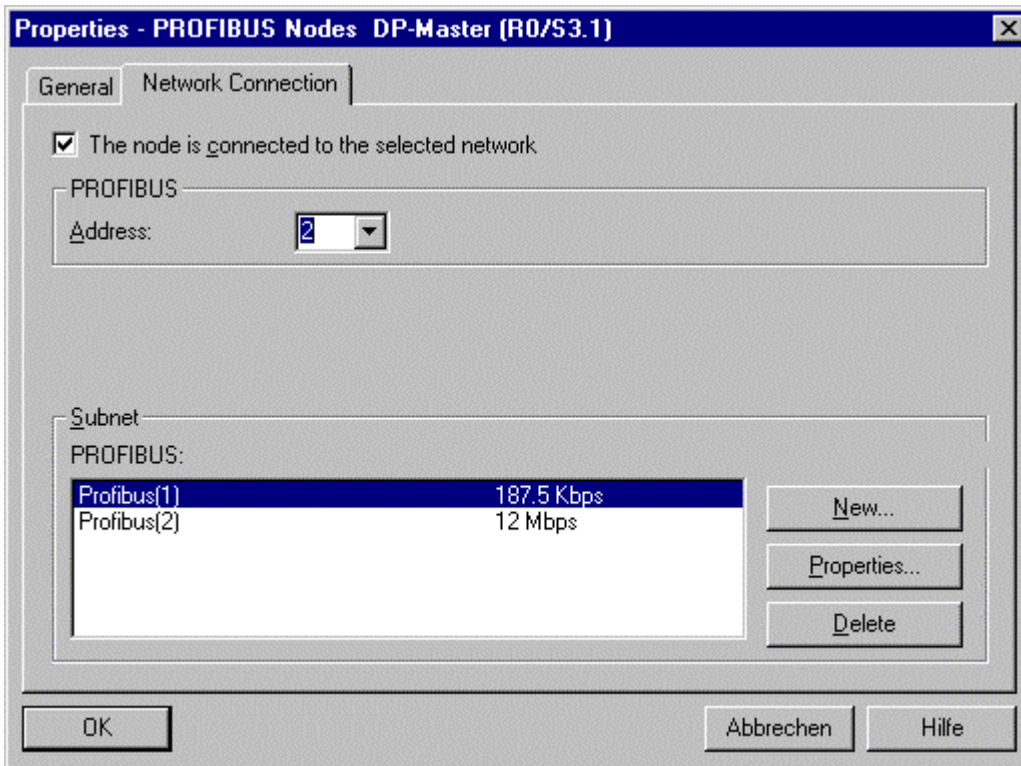

Figure 1
- Configure a DP master system (e.g. CPU 414-2 DP) and set the user address of the DP master to 2 with a transfer rate of 187.5 Kbits/s (Figure 1)